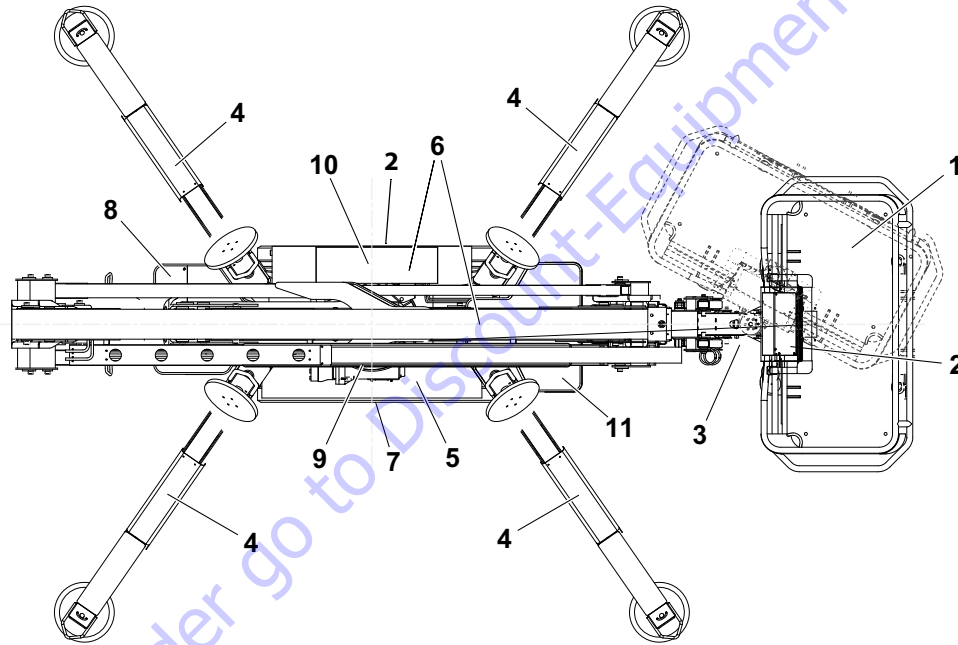

Figure 2-1. Daily Walk-Around Inspection
5. **Walk-Around Inspection** – Refer to Figure 2-1.
12. **Lanyard Attach Points** – During operation, occupants in the platform must wear a full body harness with a lanyard attached to an authorized lanyard anchorage point. Attach only one (1) lanyard per lanyard anchorage point.